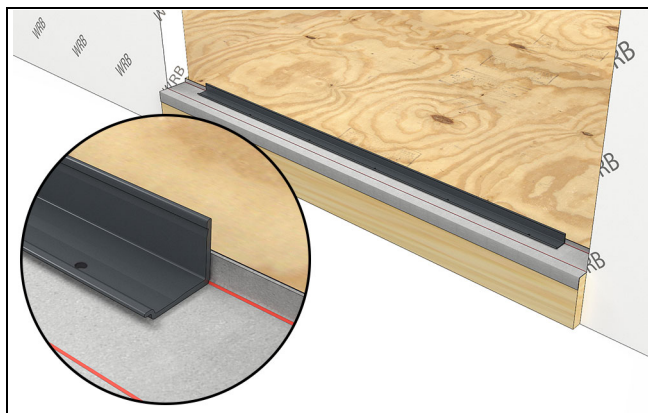

Figure 8
2. Center the sill support on the rough opening sill oriented with the upturned leg to the interior. Align the interior edge of the sill support on your mark/laser line. See Figure 8.